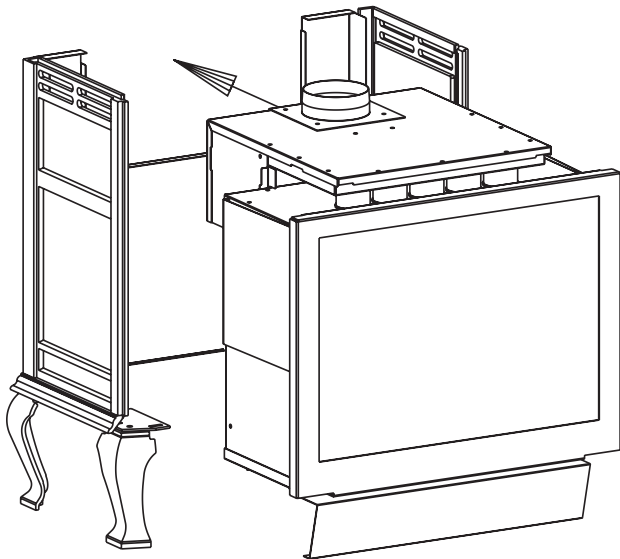
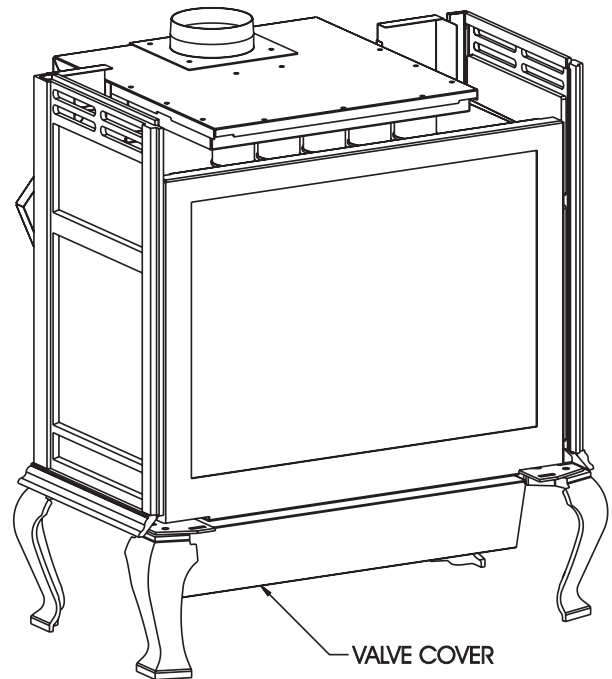

Figure 10
Figure 11
- E. Inserting firebox into partially completed assembly (Figure 10 and Figure 11).
12. The following procedure will provide a snug fit between the casting front and the casting sides. Grasp the right, front leg, push inward on the leg in order to provide a snug fit between the casting front and the casting side. Continue to hold the right, front leg as you completely tighten the (2) 3/8" bolts that attach the leg pad to the right, casting side. Repeat procedure for left, front leg to achieve a snug fit between the casting front and the casting side.
14. Refer to Figures 10 and 11, the appliance firebox can now be inserted into the casting. Center the firebox in the casting.
**Attention:** Remove (1) Phillips-head screw in the top of the valve cover. The screw is used to secure the valve cover in place during shipping. The (1) Phillips-head screw can be discarded.